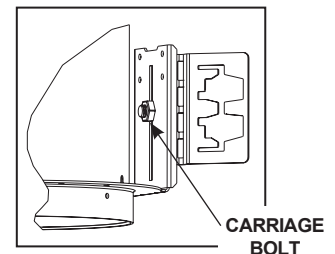

Figure 3
**Step 2.** Adjust butterfly mounting brackets by loosening the carriage adjustment bolt so bottom of plaster ring is flush with finished ceiling line. Mounting brackets have total vertical adjustment of 3" (Fig. 3).